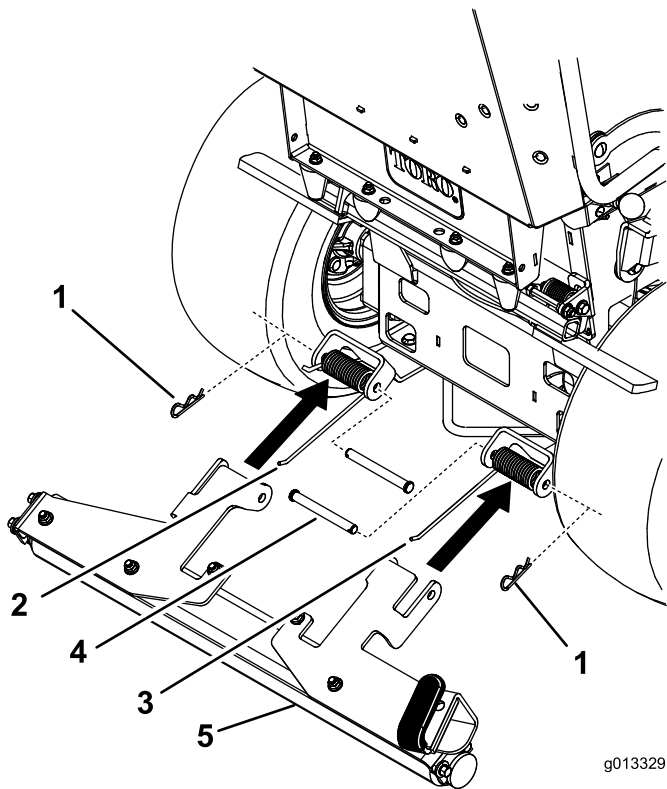

Figure 3
1. Position the springs into the mounting brackets (Figure 3). Ensure the short outside finger on the spring is in the slot in the roller mount.
2. Position the roller assembly into the striper mounting brackets (Figure 3).
3. Insert the clevis pin through the mounting bracket, roller mount and spring and secure it with a hairpin cotter pin (Figure 3).